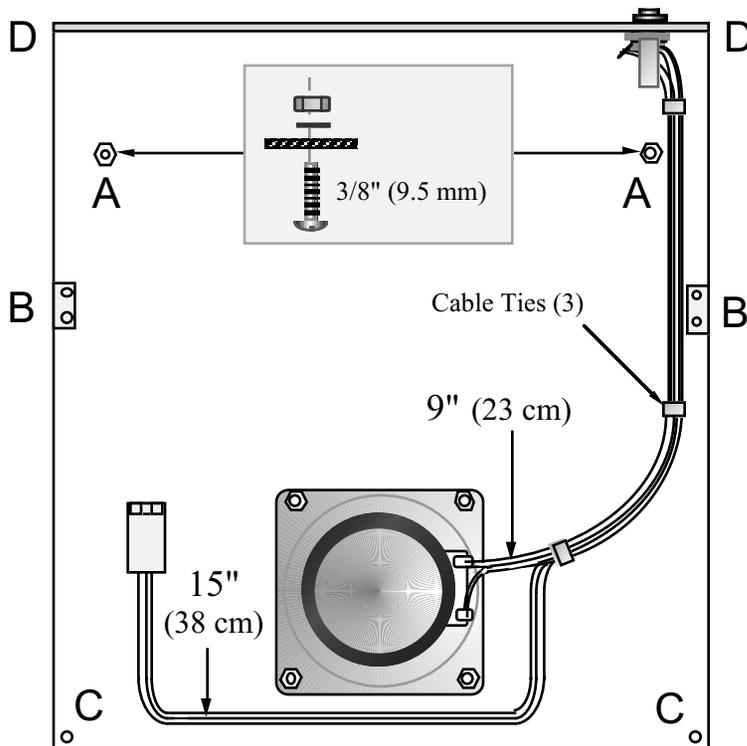
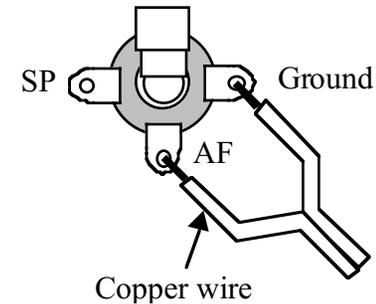

Figure 7-1
Figure 7-4
Place the top cover upside down as shown in Figure 7-1, with its rear panel facing away from you. The illustration shows how the speaker, 2-conductor cable, external speaker jack and other hardware will be attached to the top cover.
- Place #4 fibre washers (black) at each of the top cover's four speaker mounting holes (Figure 7-1). Trim the corners of the grille cloth so it just fits between the fibre washers, not touching them.
- Locate the two holes marked *A* in Figure 7-1. Use two 4-40 x 3/8" (9.5 mm) screws to fill these holes, securing them with #4 lock washers and 4-40 nuts. (The holes are for the battery option.)
- Install 2-D fasteners at the two locations marked *B* in Figure 7-1. The 2-D fasteners should line up exactly with the edges. Use two chassis screws per 2-D fastener.
Install the external speaker jack in the EXT SPKR hole. Orient the jack as shown in Figure 7-1 and Figure 7-4, with the "AF" tab nearest the inside of the top cover. (**Caution:** Misidentification of the three tabs could result in a ground short.)
Connect the other end of this cable to the external speaker jack as shown in Figure 7-4. The copper wire must be connected to the "AF" lug of the speaker jack. Solder only the copper wire.
Use three cable ties at the points shown in Figure 7-1 to hold the speaker cables in place. (Save the fourth cable tie for use with the supplied RF probe.) The ties should be pulled tight. Trim any excess cable tie length.
- Remove the masking material from the two top-cover mounting holes marked *C* in Figure 7-1.
- Cut through and peel off about 1/2" x 1/2" (12 x 12 mm) of masking material from around the top-cover mounting holes marked *D* in Figure 7-1. These holes are in the far corners of the top cover's rear panel, corresponding to screws *1* and *2* in Figure 7-6.